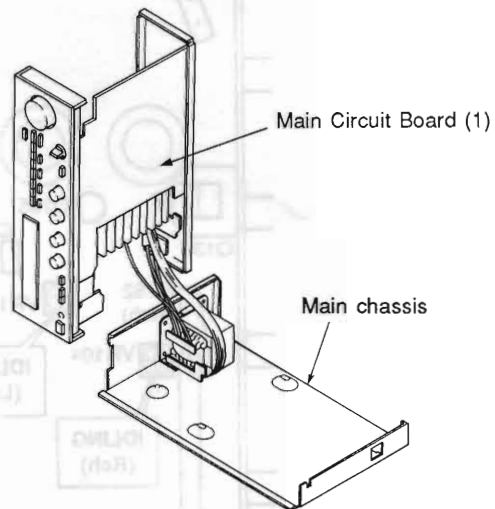

Fig. 2
- c. Remove the Main Chassis as shown in Fig. 2. In this condition it is possible for you check the Main Circuit Board (1), and replace the parts.